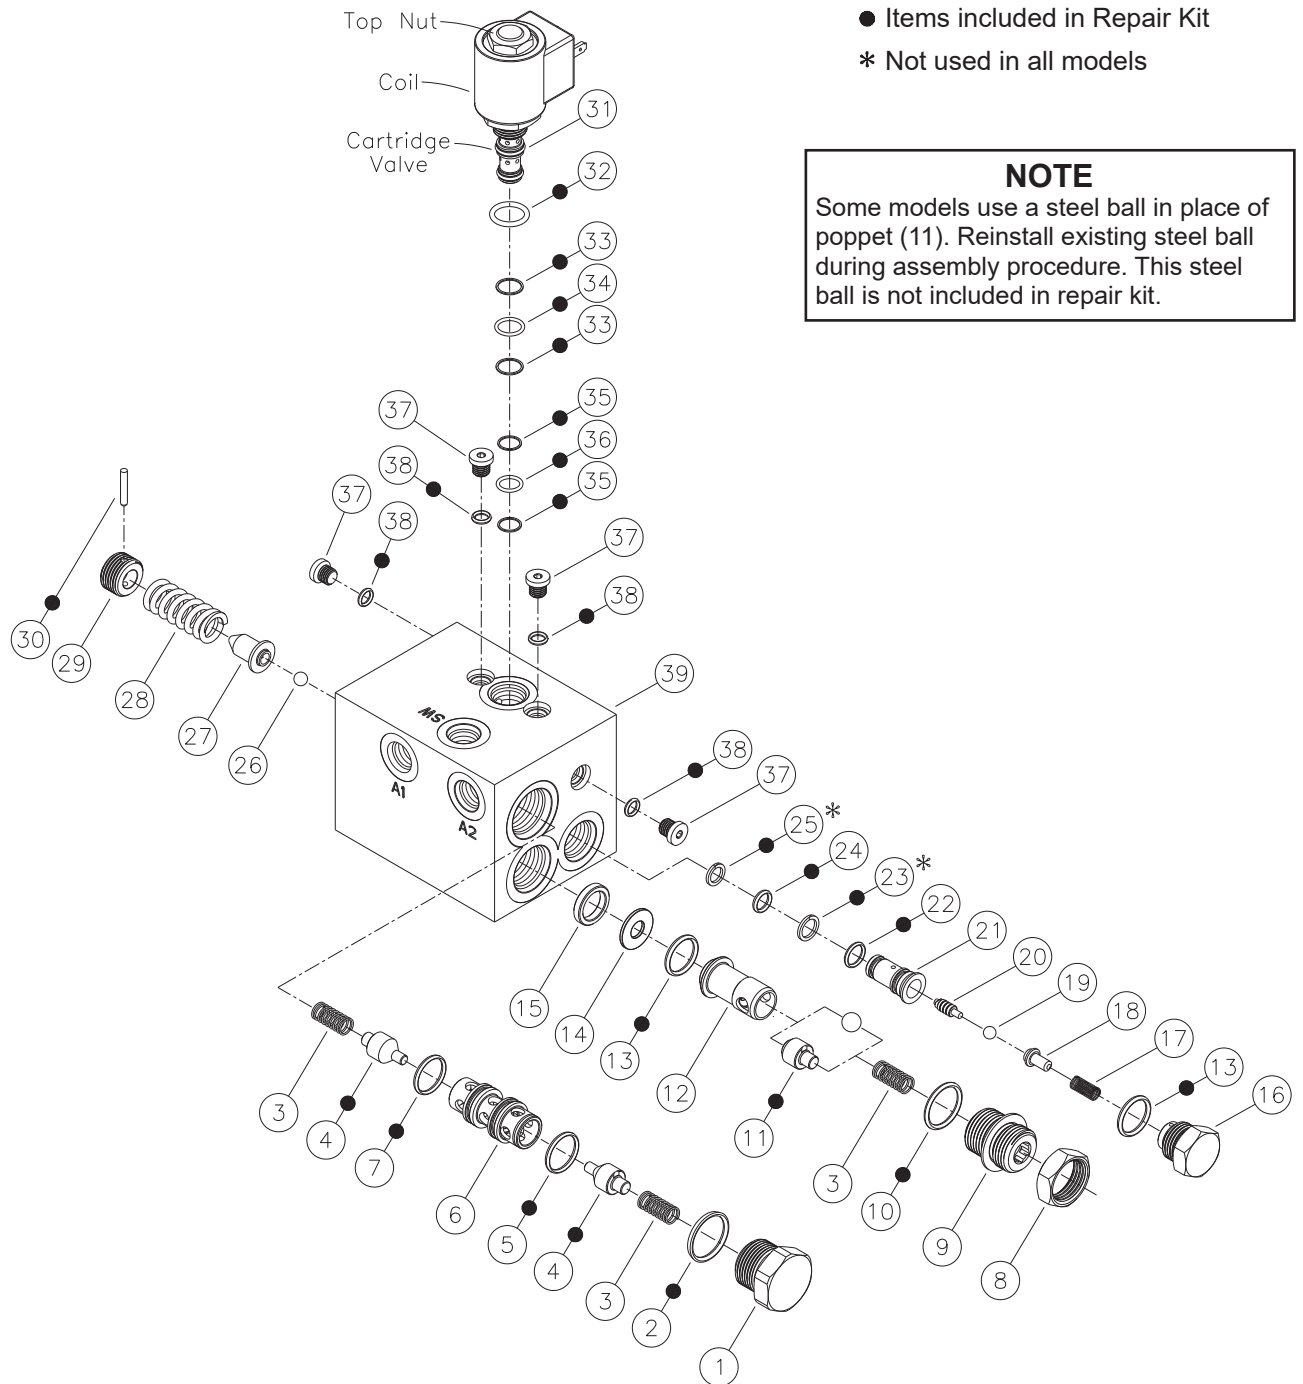

FIGURE 1
(Refer to Figure 1)
3. Install spool (20) into insert (21). Note direction of spool (20), long shoulder end of spool (20) is toward plug (16).
4. Install ball (19) on insert (21). Install stop (18) on ball (19). Install spring (17) over stop (18).
5. Install new o-ring (13) on plug (16). Carefully install plug (16) into housing (39) and torque 47.5-54.2 N·m (35-40 lb·ft).
6. Turn housing (39) so screw (29) cavity is vertically upward. Install ball (26) so it is centered on insert (21). Drop retainer (27) and spring (28) into housing (39).
7. Insert new pin (30) in screw (29). Be sure pin (30) is aligned properly and is evenly driven into screw (29). Do not damage screw threads.
8. Thread screw (29) into housing (39) to the depth recorded during disassembly.
9. Install new o-ring (10) on screw assembly (9).
10. Install washers (15 & 14), new o-ring (13), seat (12), new poppet (11) or reinstall existing ball (11), spring (3) and screw assembly (9) in housing (39). Torque screw assembly (9) 24.4-29.8 N·m (18-22 lb·ft). **NOTE: If your model uses a steel ball in place of poppet (11), the steel ball must be reinstalled during assembly procedure.**
11. Torque nut (8) 43.4-51.5 N·m (32-38 lb·ft).
12. Install new o-ring (5 & 7) on sleeve (6).
13. Install springs (3), new poppets (4) and sleeve (6) in housing (39) in the order shown in Figure 1. Note direction of poppets (4). **NOTE: Be careful not to scratch or mar sleeve (6) or housing bore.**
14. Install new o-ring (2) on plug (1). Install plug (1) in housing (39) and torque 54.2-61.0 N·m (40-45 lb·ft).
15. Install new o-rings (38) on four plugs (37). Install plugs (37) in housing (39) and torque 3.4-6.8 N·m (30-60 lb·in).
17. Install cartridge valve in housing (39). Torque cartridge valve 20.3-27.1 N·m (15-20 lb·ft). Place the coil over the cartridge valve. Reinstall the top nut and torque 3.4-6.8 N·m (30-60 lb·in).